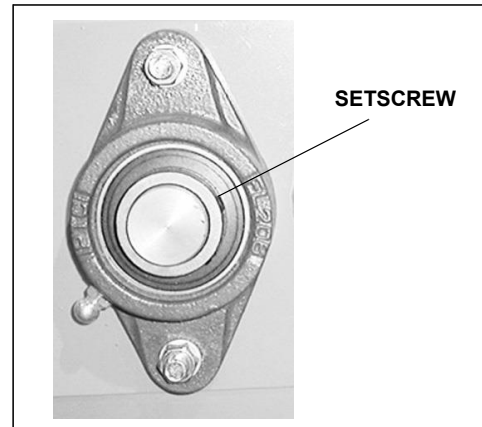

Figure 7. Setscrew on Flange Bearing
•Loosen the setscrews on the flange bearings or pillow block bearings so that the headshaft can be moved laterally. (See Figure 7 and 8)
9. Loosen the setscrews securing the bearings to the headshaft (Figure 7 or 8).